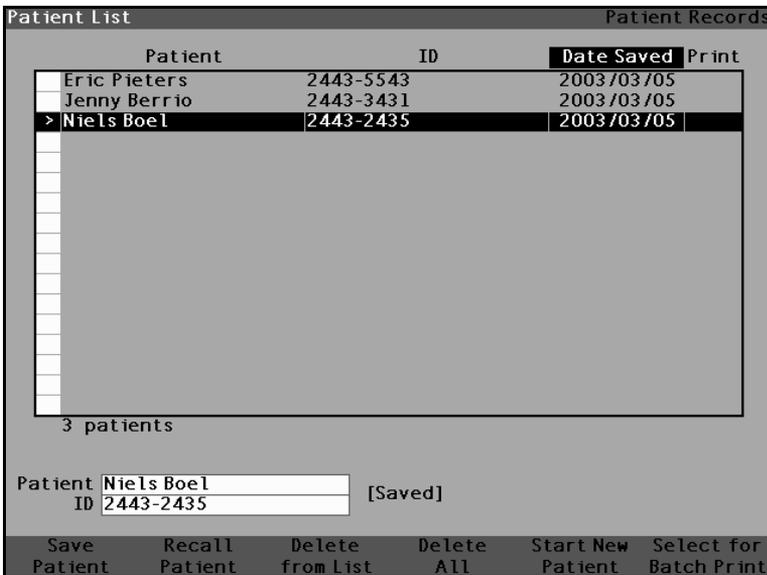

Figure 157 Recalling a Patient Record
1. Press the "Patient Records" button located at the right side of the instrument. The Patient Record Screen as shown in Figure 157 below will be displayed.